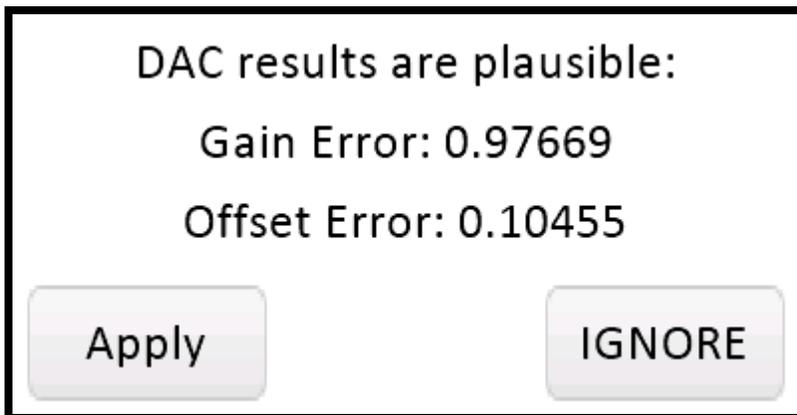

Figure 27. MAXREFDES183# Calibrate DAC voltage result.
36. The MAXREFDES183# will calculate and show the results for the gain and offset errors. The results for the DAC in the **MAX22000** should look like **Figure 27**. If the results make sense, the display will show “DAC results are plausible”. If not, then most likely, something was wrong with the measurement or data entered (i.e., typo, comma setting, missed the “-” sign, or outputs were shorted during the measurement, etc.).